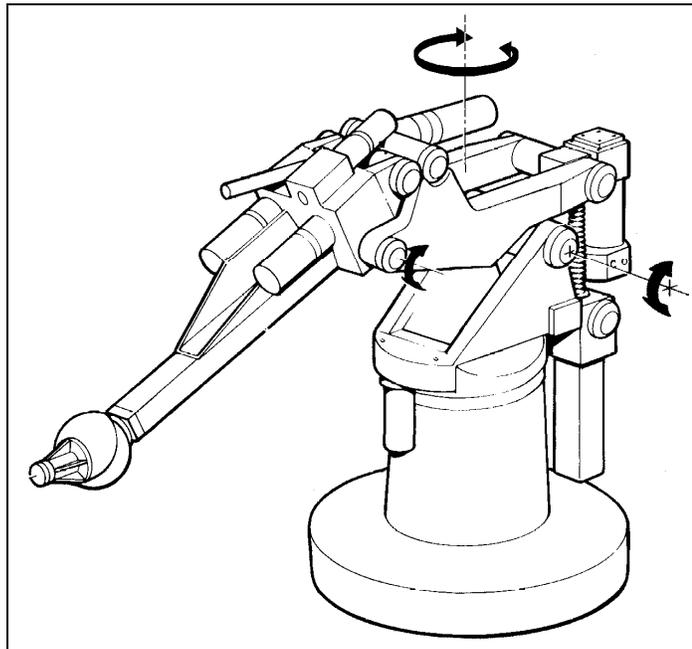

Figure 8-8
- ◆ **Vertical Articulated Robots:** In a vertical articulated robot, shown in Figure 8-8, the first three joints are revolute (RRR). Since this is equivalent to the structure of the human arm, this type of robot is sometimes referred to as anthropomorphic, which means human-like.